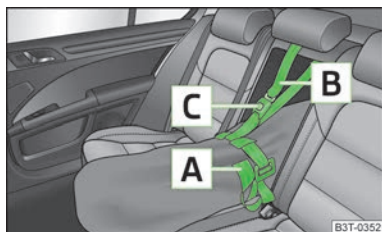

Fig. 101
- Tighten the strap **A** on the free end around the skis in front of the bindings » Fig. 101.
- After placing skis into the through-loading bag, you must secure the bag with the securing strap **B** » Fig. 101.